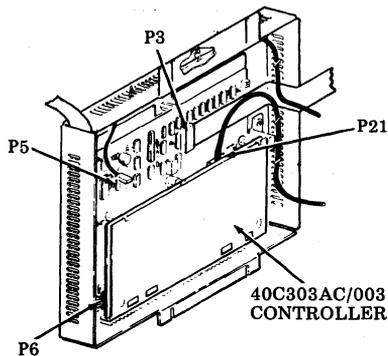

Fig. 32—Controller Connectors
- (b) Plug in P3 (EIA), P5 (SSI), P6 (Opcon) and P21 (Power) connectors (Fig. 32).